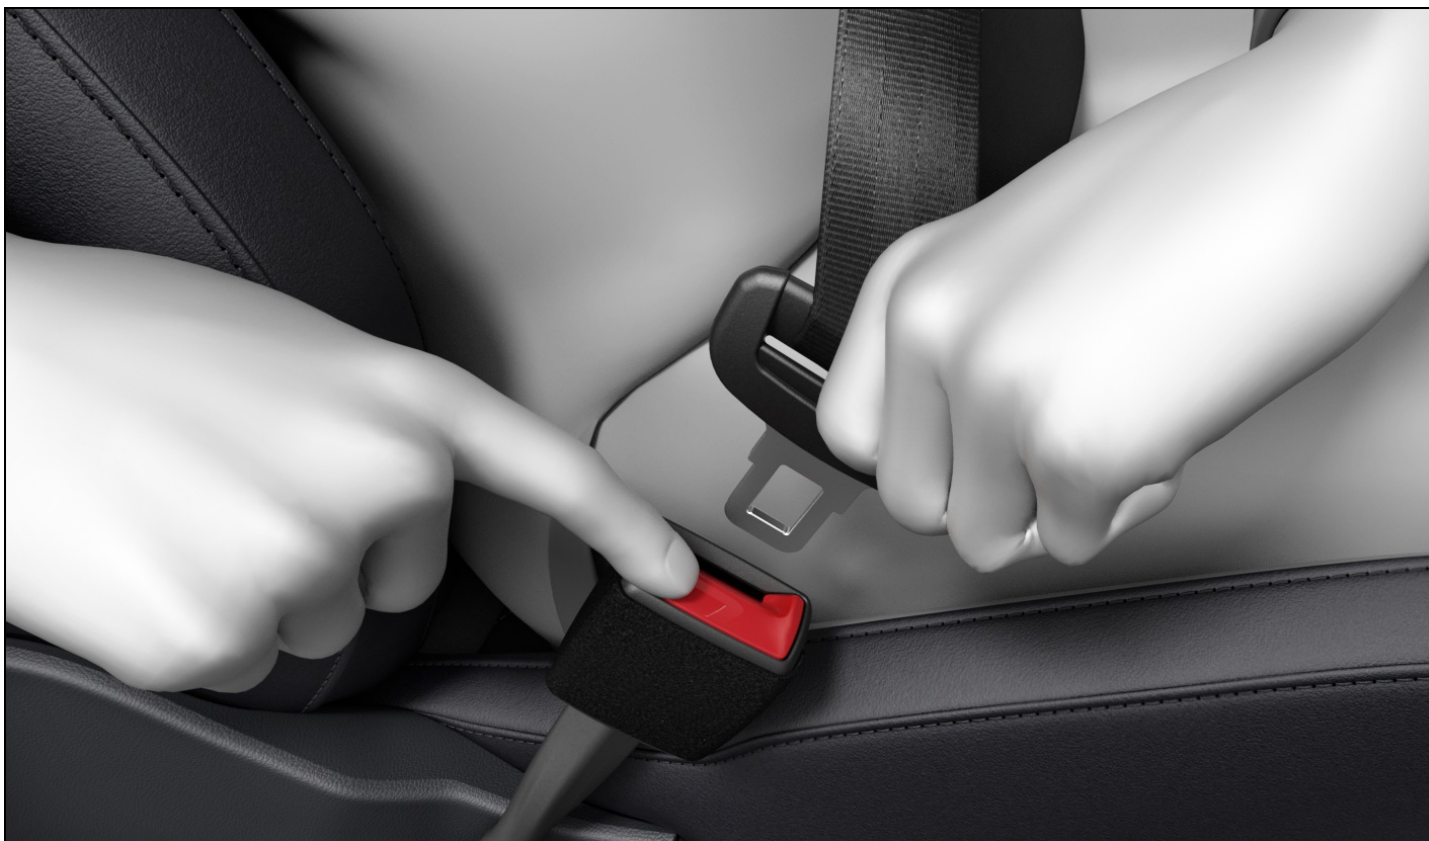

Fig. 22 Releasing the buckle tongue from the safety belt buckle.
1. Press the red button in the safety belt buckle *fig. 22*.